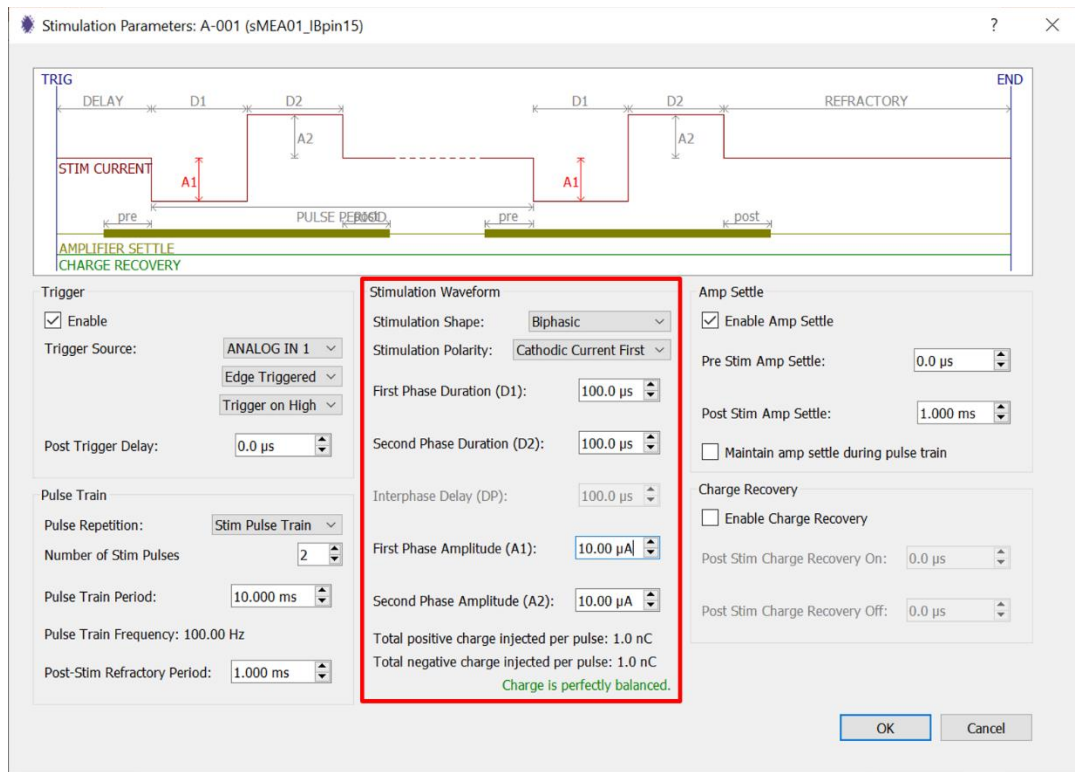

Fig. 77: Stimulation Parameter window with the stimulation waveform panel in red.
- 6) The “Stimulation Waveform” panel (red box in **Fig. 77**) allows the user to specify each stimulus (single or pulse train) parameters, such as waveform shape, polarity, phase duration, and phase amplitude.